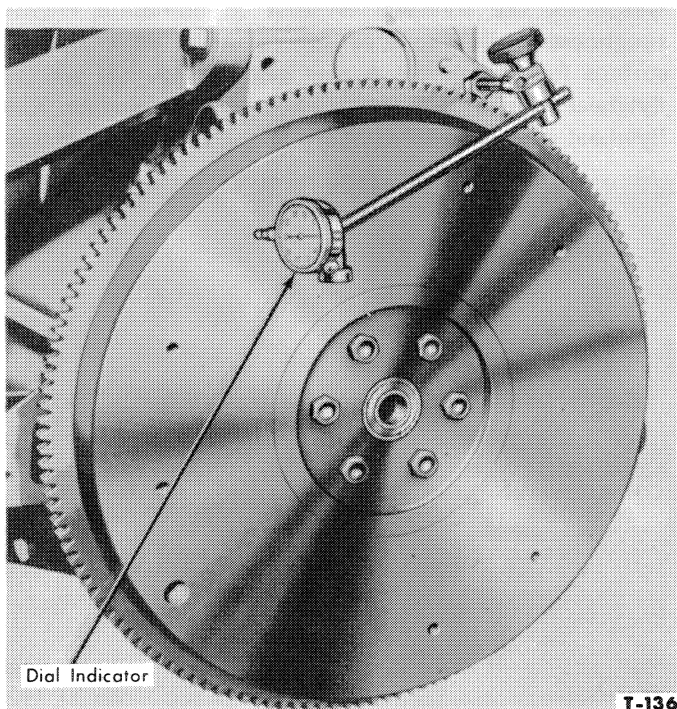

Figure 60—Checking Flywheel Runout
3. Before removing the flywheel attaching bolts, check the runout with a dial indicator, see Figure 60. Remove the six flywheel attaching bolts. Tap the flywheel with a soft mallet or hammer to loosen it on the crankshaft. Lift the flywheel from the crankshaft.